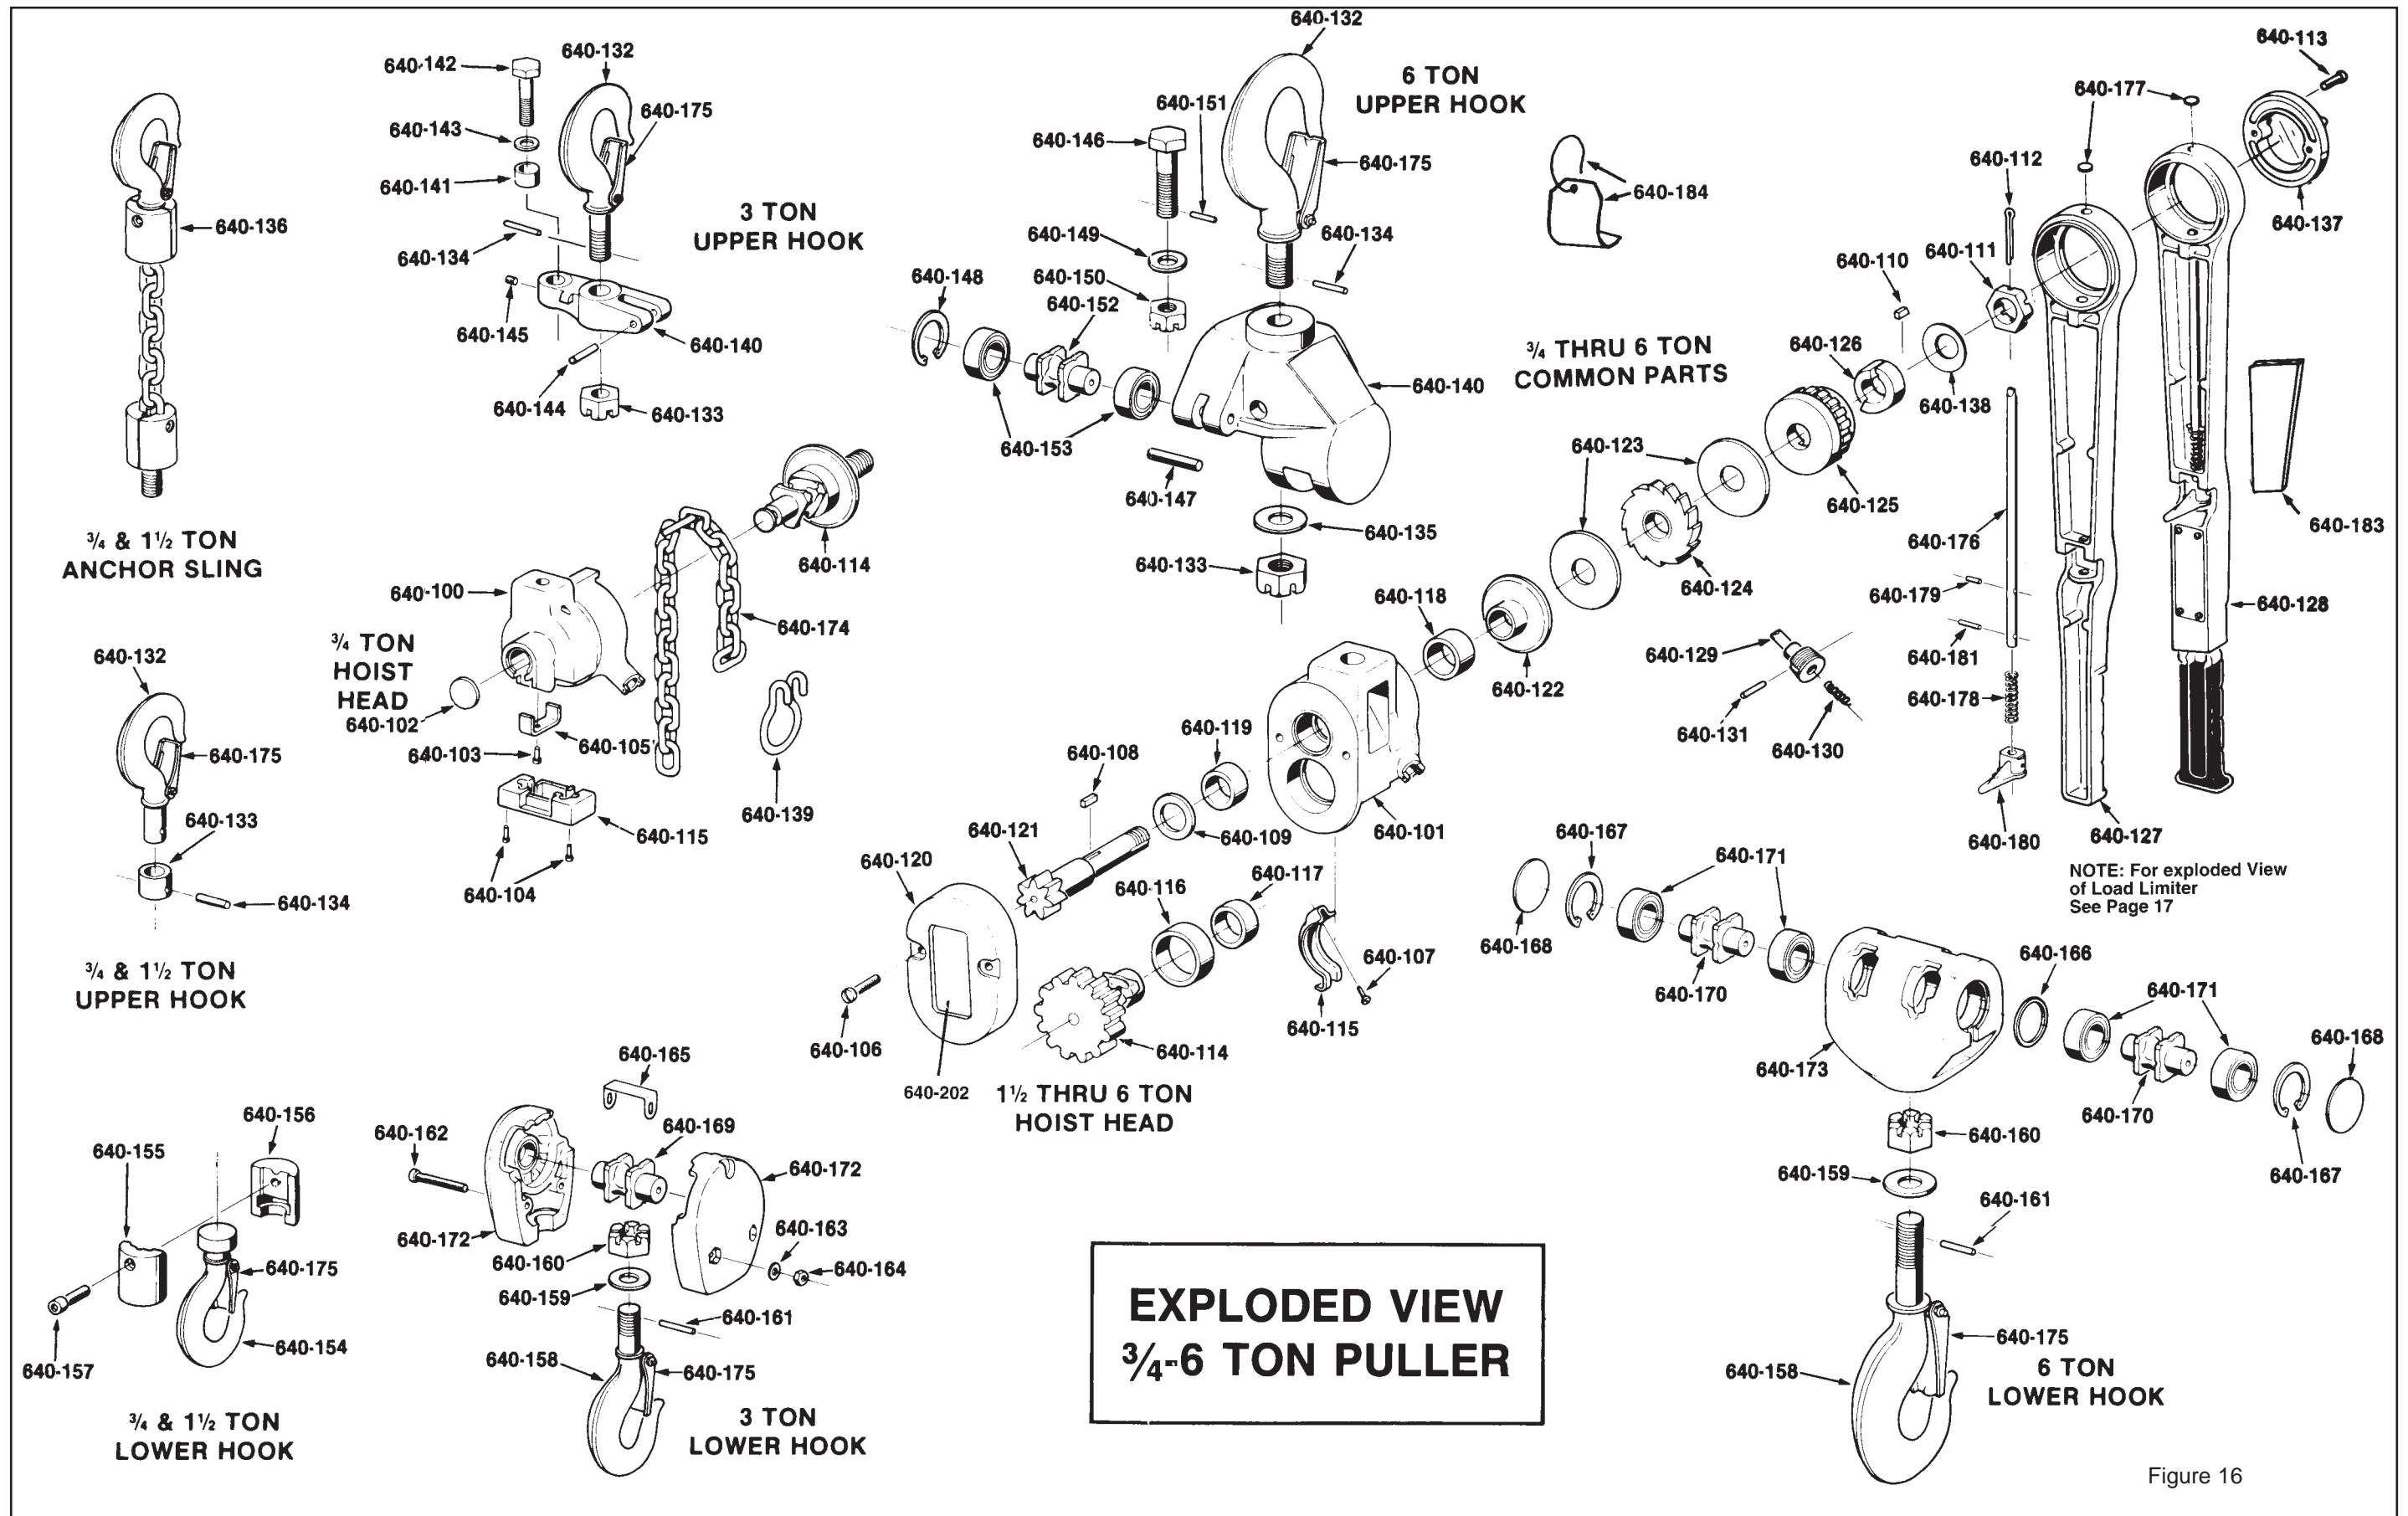

Figure 16
- (1) Use a grinder and nick the link on both sides (Figure 16), then secure the link in a vise and break off with a hammer.
- (2) Use a 7 inch (178mm) minimum diameter by 1/8 inch (3.17mm) thick abrasive wheel (of type recommended by wheel supplier) that will clear adjacent links.